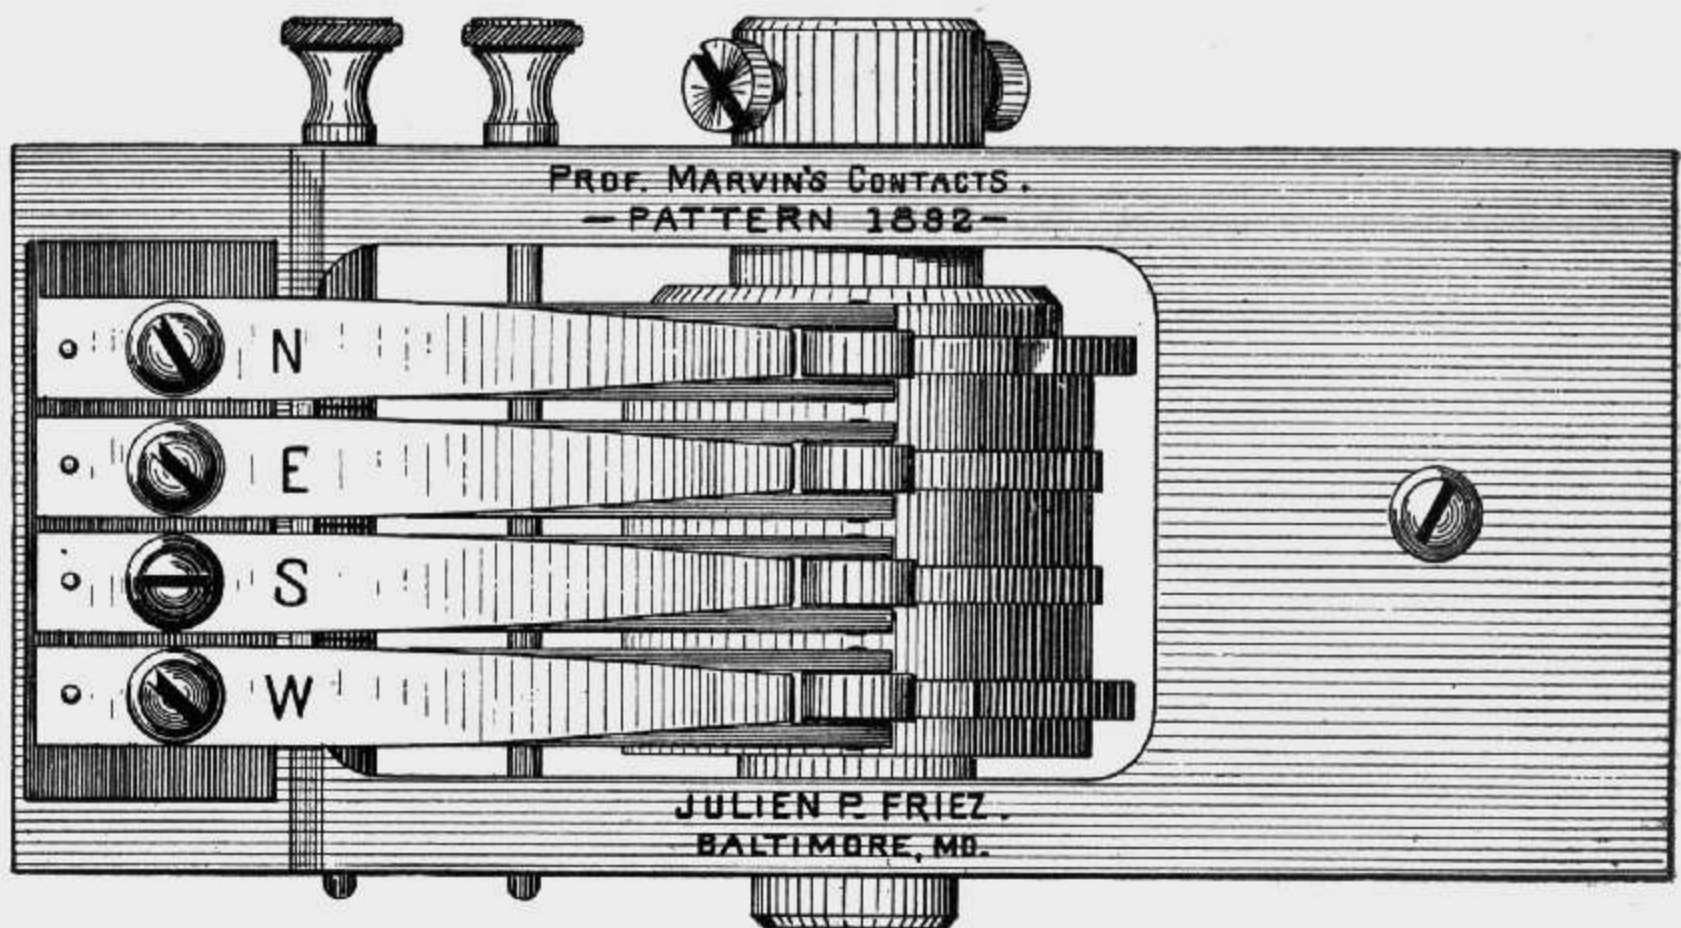
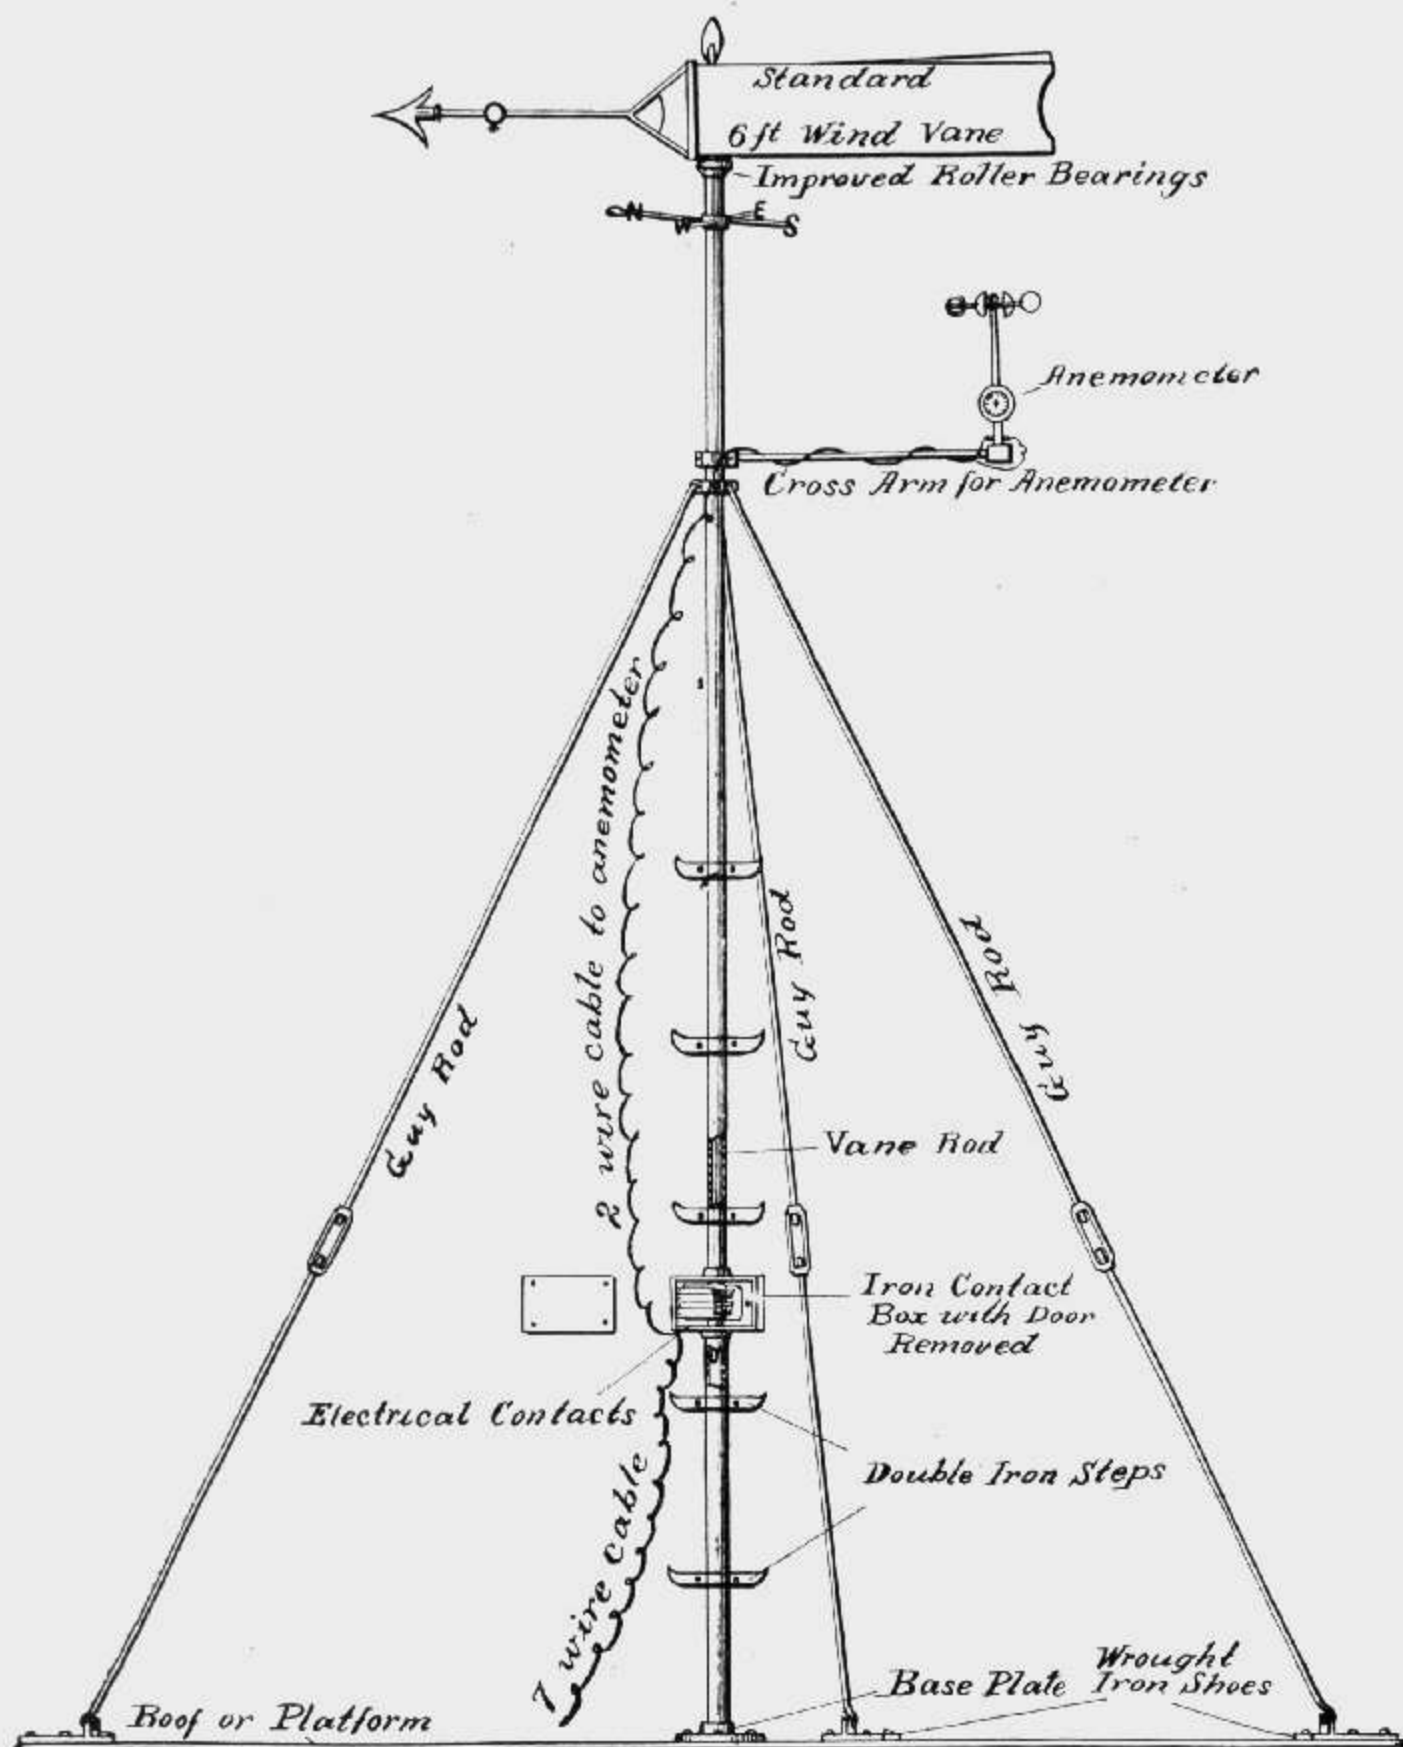

Fig. 5.
Fig. 6.
Fig. 5 is an illustration, front view, of the very latest Weather Bureau pattern electrical contacts for wind direction. This apparatus is now made complete in itself, that is, the parts are all rigidly mounted together on a suitable brass frame, which makes it unnecessary to obtain the rather difficult vertical adjustment of the cam collars on the vane rod, required with the old style contacts. These new contacts also contain the latest improvement for reducing friction to a minimum, and if a wind vane is properly erected on improved roller bearings, these contacts will not retard the movements of the vane even in the lightest winds. The contact plate is simply secured at each end by suitable set-screws through the sides of the iron contact box. After the vane and cams are properly and accurately adjusted to each other, and so that the electrical contacts are correctly made for each of the eight points of the compass, as determined by experiment, the cams are securely clamped to the rod leading from the vane. This inside rod is made of $\frac{1}{4}$ -inch iron pipe, and its proper position within the support is fully shown in Fig. 6, which also shows the iron contact box (with door removed) and the electrical contacts in place.
1. Combined Wind-vane and Anemometer Support, complete, as shown in Fig. 6, *except* Anemometer and wire cable; support 14 ft. high; standard 6-ft. wind-vane with improved roller bearings, contact box and electrical contacts, 6 iron steps, adjustable guy rods, cross-arm for Anemometer, wind-direction arms, &c., nicely painted and finished; arrow-heads, &c., gilded,* price...\$